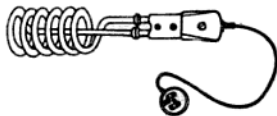

Fig. 5.18 Immersion heater
**Immersion Water Heater** As is apparent from the name, it is dipped in the vessel containing water for heating. There is a heating element in the brass chromium plated water-tight tube and insulated from it with an insulating material like plaster of paris. There is no wastage of heat in it, so its efficiency is greater than other type of heaters. It is a portable water heater, as shown in Fig. 5.18. The immersion heaters are manufactured in 250, 1000 and 1500 W ranges. The 250 W immersion heater is used for heating water for shaving purposes only.